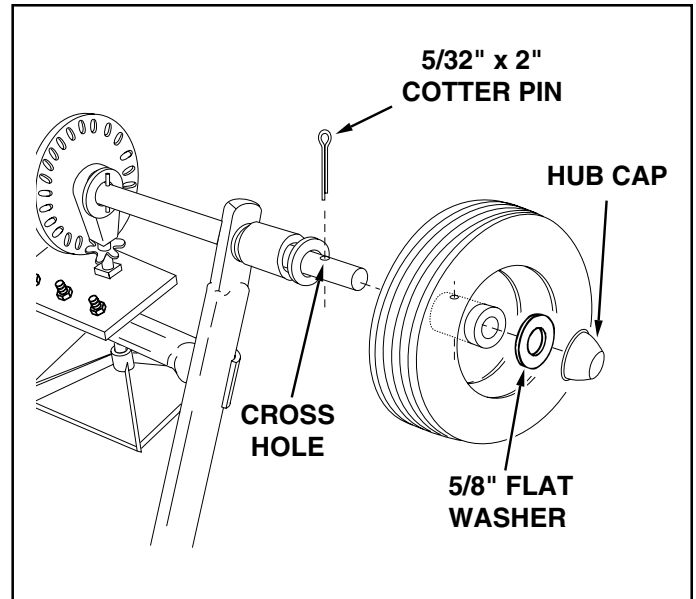

FIGURE 3
- 5. Place a wheel onto the end of the axle that has a cross hole. The long end of the hub goes to the inside. See figure 3.
- 6. Assemble a 5/32" x 2" cotter pin through the hole in the wheel hub and the axle. See figure 3.
- 7. Place a 5/8" flat washer onto the axle and then lightly tap a hub cap onto the axle until it is snug against the washer and wheel hub. See figure 3.